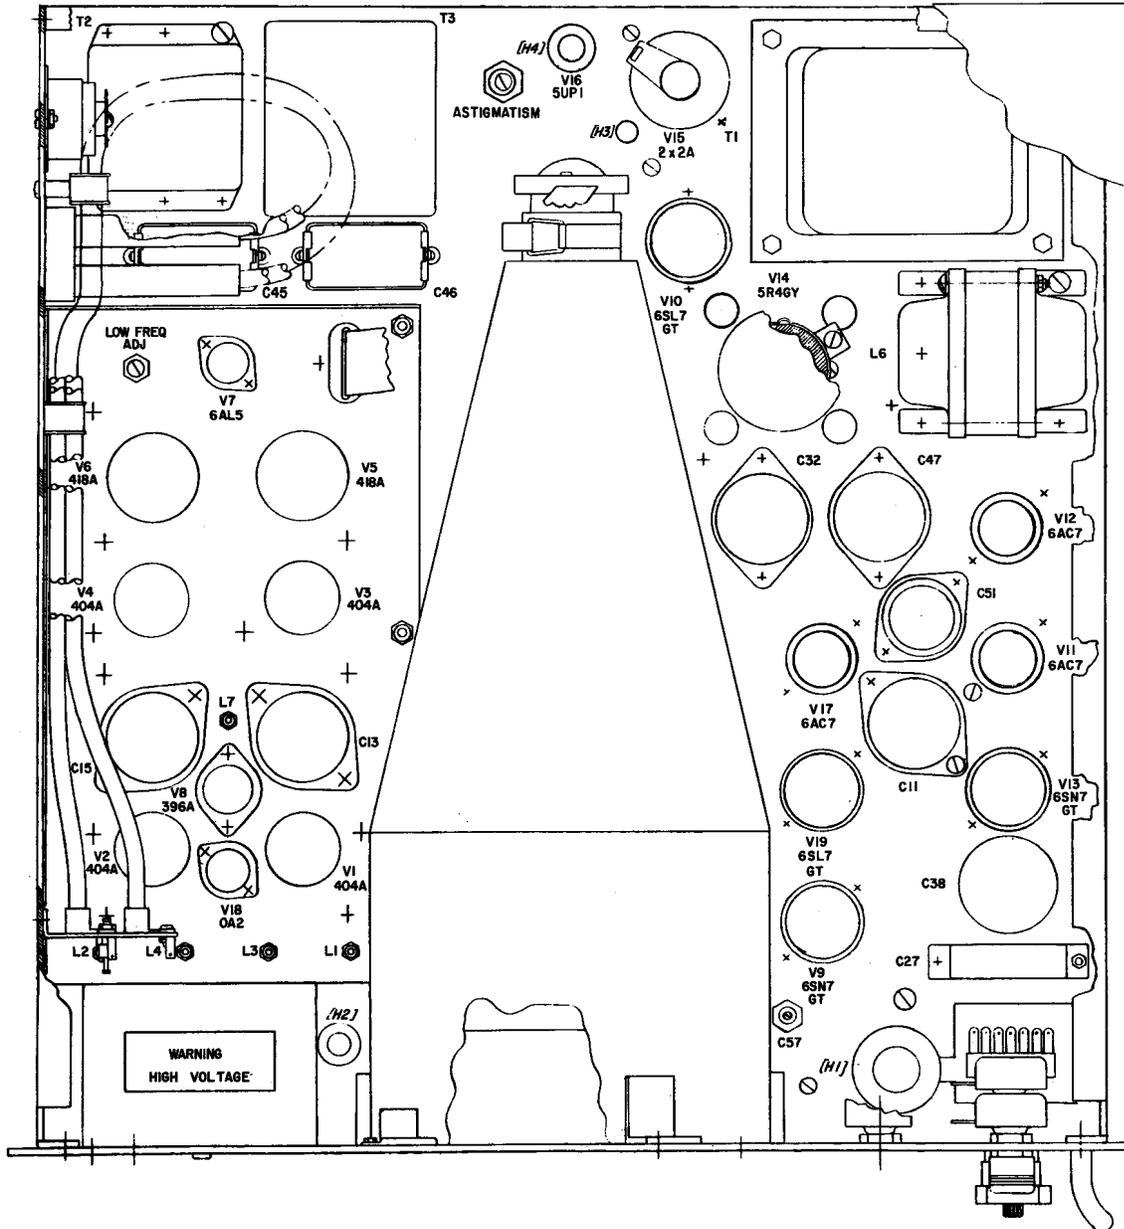

Fig. 3 — KS-15512, List 4 Oscilloscope — Top View
**2.08** Figs. 3 and 4 show the component layouts as viewed from the top and bottom of the List 4 oscilloscope respectively.